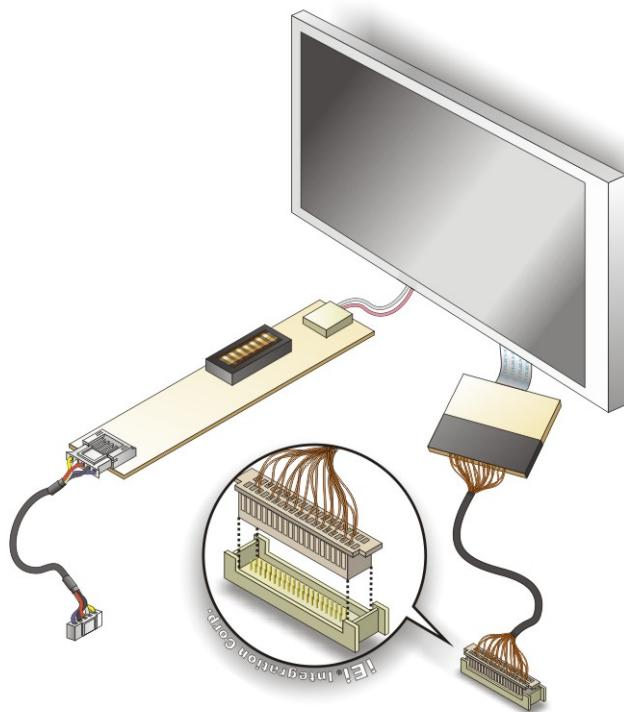

Figure 4-18: LVDS Connector
Step 2: Insert the cable connector. Insert the connector from the LVDS PCB driving board to the LVDS connector as shown in Figure 4-18. When connecting the connectors, make sure the pins are properly aligned.